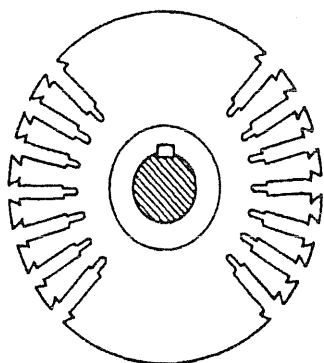

FIG. 4.49 : CYLINDRICAL ROTOR WITHOUT WINDING
- So the rotor is made cylindrical. Hence the air resistance is reduced and wastage of power is reduced. Construction of such rotor is shown in Fig. 4.49. In this the diameter of rotor becomes less so the axial length is increased. This type of rotor construction is used for the alternators driven by the steam turbines.